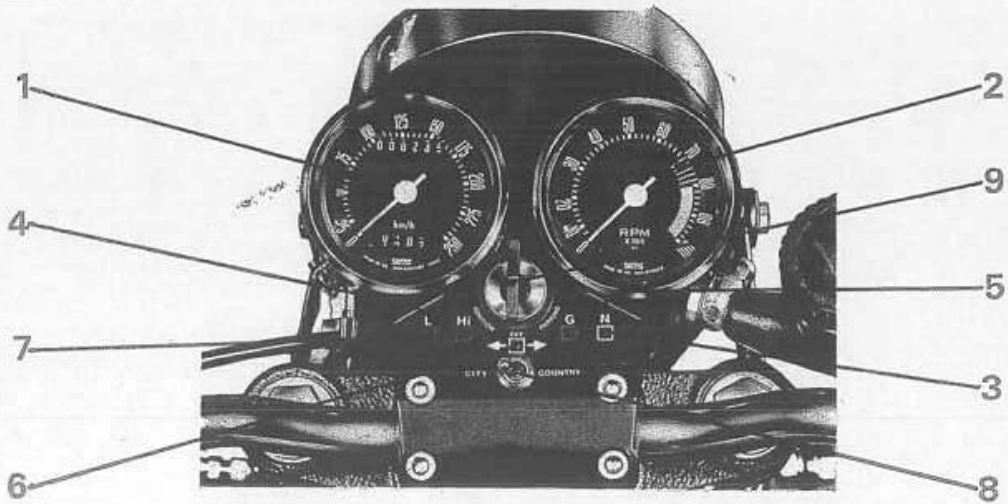

Fig. 4
**Cruscotto (vedi fig. 4)**
**Dashboard (see fig. 4)**